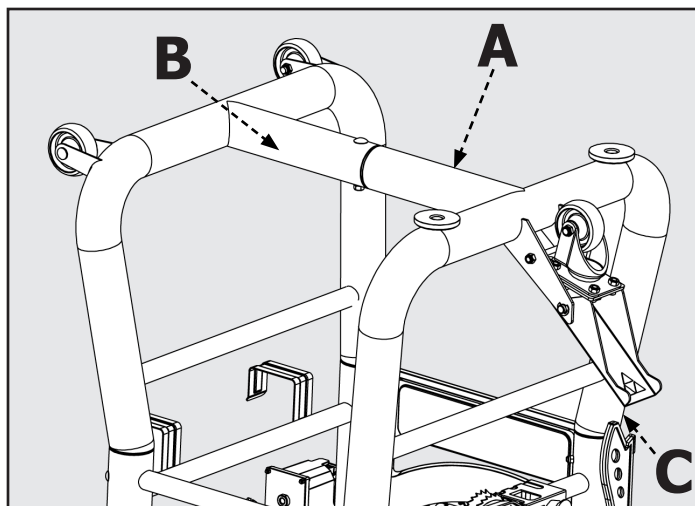

FIGURE 1
1. Connect the two tube legs by inserting the end of the left leg (A) into the end of the right leg (B) as shown in Figure 1. Secure with a M8 x 70mm carriage bolt, lock washer and nylock nut and tighten.
2. Insert the four open ends of the tube legs into the leg collars (C) as shown. Secure each leg with a M6 x 72mm bolt and nut.